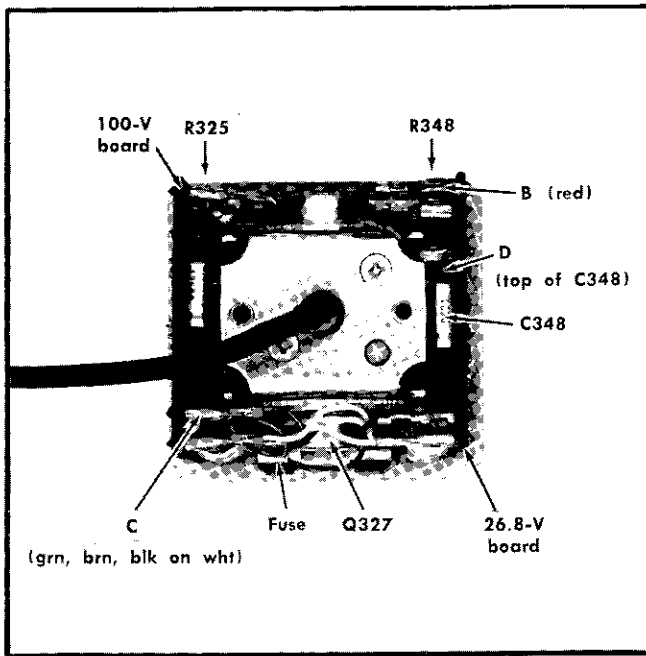

Fig. 6-23. Voltage test points and adjustment locations for step 2.
b. Isolate both the + and - input connectors of the Differential Voltmeter (item 8) from ground. Set the voltmeter for 100 volts. Then connect the positive lead to terminal C of the 100 V circuit board and the negative lead to the body of Q327. See Fig. 6-23.
e. Remove the Voltmeter leads from the 100 V supply and connect the positive lead to terminal B of the 26.8 V circuit board; connect the negative lead to terminal D. See Fig. 6-23.